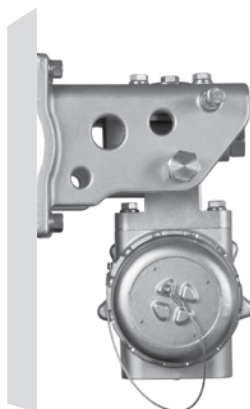

Figure 10—LS2000 Gas Detector Mounted to Flat Surface
- For flat surface mounting, refer to Figure 10.